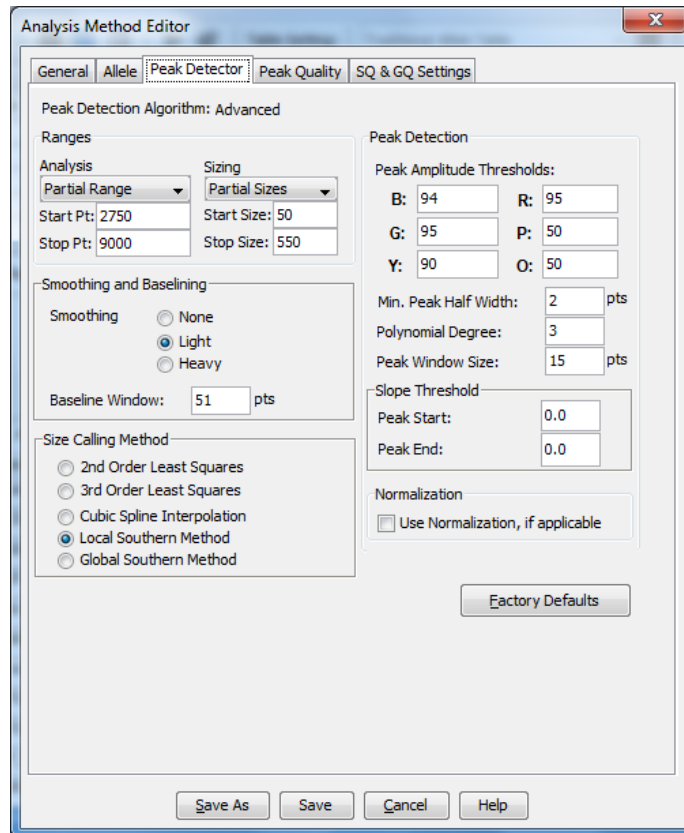

Figure 1. The Peak Detector Tab window
- 4.3.8 Click on the “Peak Detector” tab. The Peak Detector tab is where the values such as dye specific detection thresholds and analysis start and stop points are set (Figure 1).